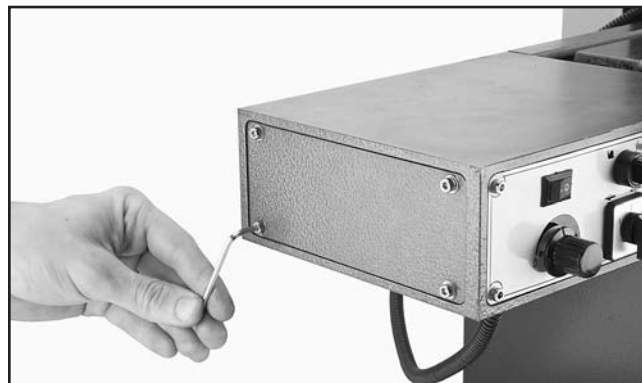

Figure 20. Removing left cover cap screws.
- Remove the (4) cap screws, as shown in **Figure 20**, and remove the left cover from the power feed assembly.